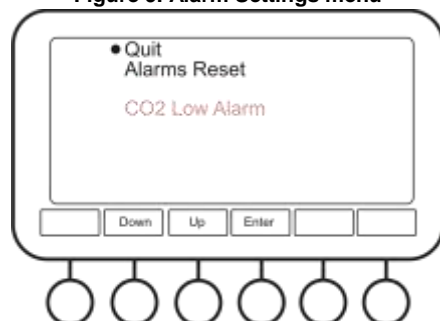

Figure 11. Active Alarms menu
5.9.4 **Active Alarms** (fig. 11). This option allows user to view and reset the list of active alarms. See 6.5, for a list of possible alarms.